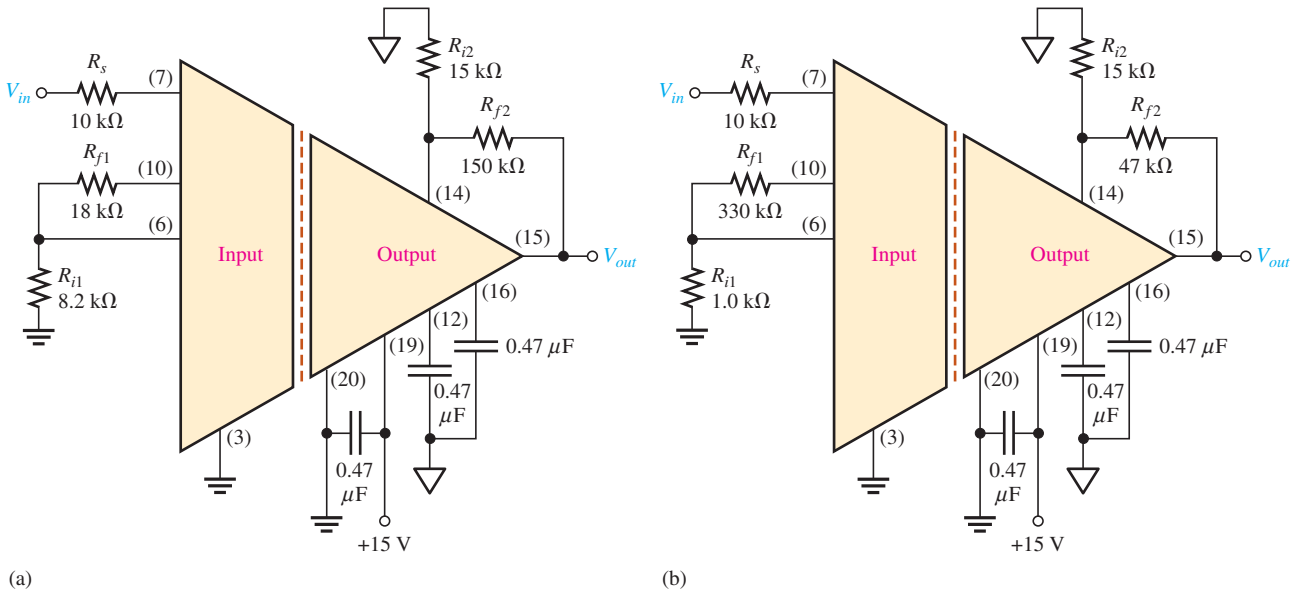

FIGURE 12-37
10. Determine the overall voltage gain of each 3656KG in Figure 12-37.
11. Specify how you would change the overall gain of the amplifier in Figure 12-37(a) to approximately 100 by changing only the gain of the input stage.
12. Specify how you would change the overall gain in Figure 12-37(b) to approximately 440 by changing only the gain of the output stage.
13. Specify how you would connect each amplifier in Figure 12-37 for unity gain.